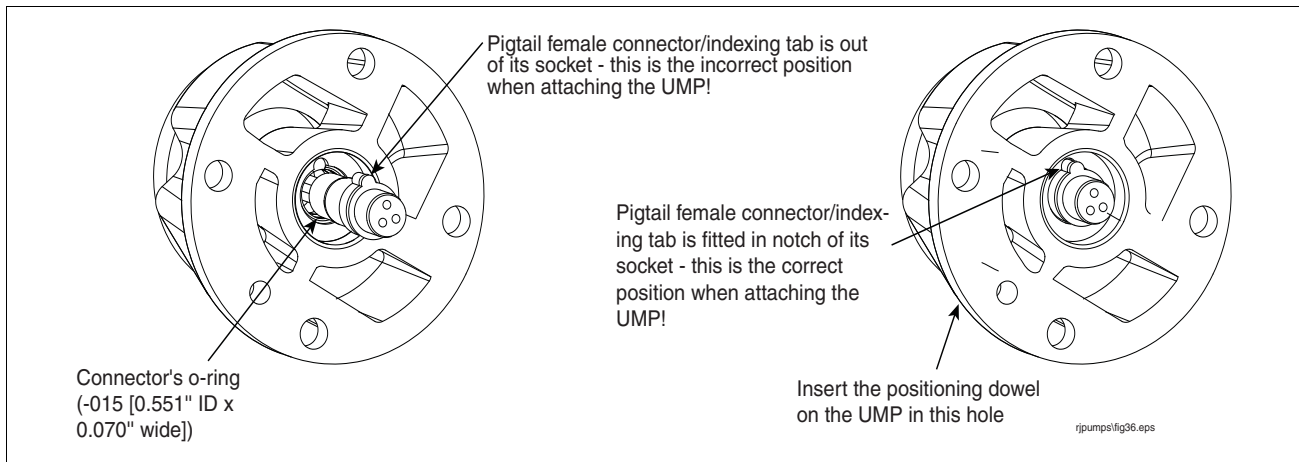

Figure 31. Verifying pigtail's female connector is seated properly
- Pull the pigtail connector in the discharge head out far enough to see the o-ring in the sidewall of its socket (see Figure 31). Remove the connector's o-ring from the connector's socket and discard it. Get a 0.551" ID x 0.070" wide o-ring from the kit and lubricate it with petroleum jelly. Slide the new o-ring over the pigtail connector and push it in the groove in the wall of the connector's socket. Lubricate the pigtail connector body with petroleum jelly and push it back into its socket, making sure its index tab is in the socket's notch .
- Align the UMP positioning dowel so it inserts in the proper hole in the discharge head (see Figure 31) and push the UMP into position using hand force only. The UMP should be snug against the discharge head prior to installing the UMP retaining bolts.